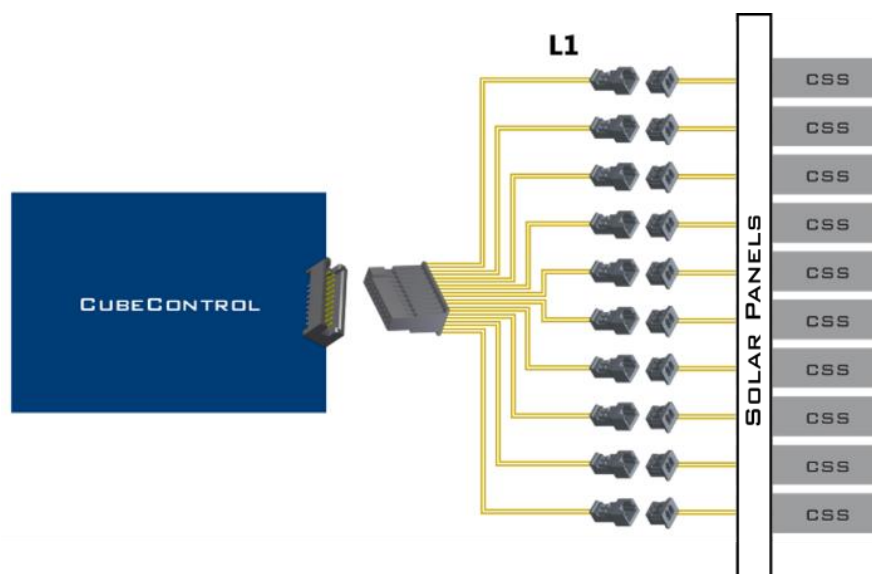

Figure 6 – Coarse Sun Sensor wiring for Option 2 (self-assembly)
2. **Self-assembly option** - only the Photodiodes, PicoBlade connectors and harness L1 (360 mm, uncrimped) are supplied, for own assembly by the client. This smaller-sized configuration is useful if the solar-panels have dedicated pads for photodiodes. An example of this configuration can be seen in Figure 6.